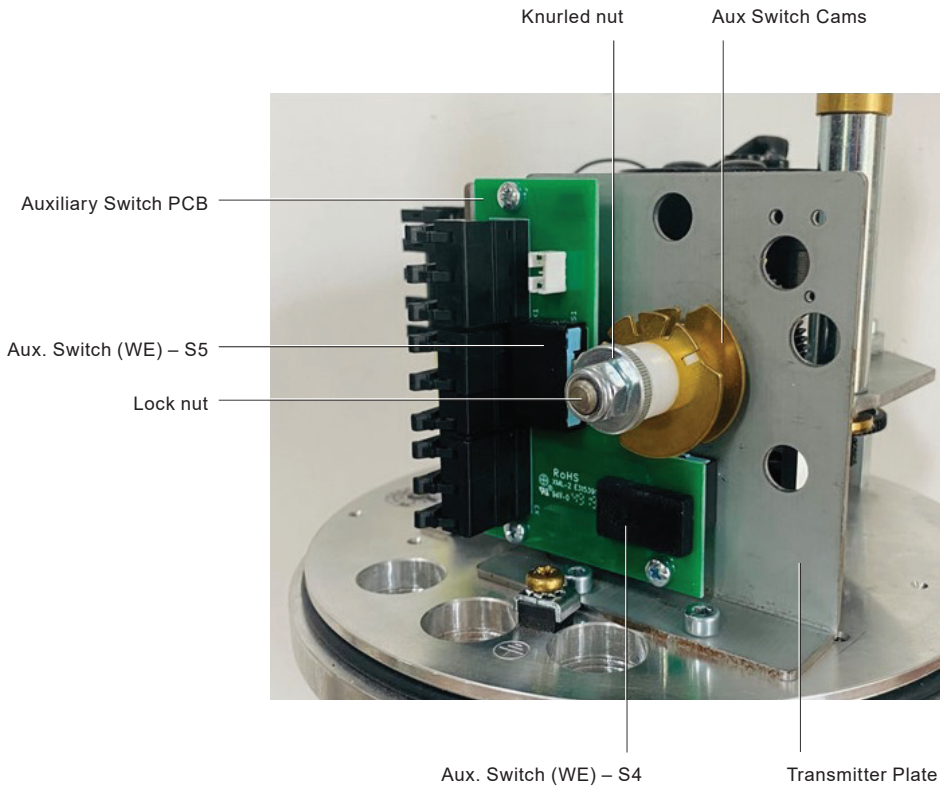

Fig. 8 Auxiliary Travel Switch (WE) Arrangement (1-6 kN)
- Assemble the transmitter plate complete with auxiliary travel switches to the actuator base plate. See Fig. 8 "Auxiliary Travel Switch Arrangement (1-6 kN)" for product orientation